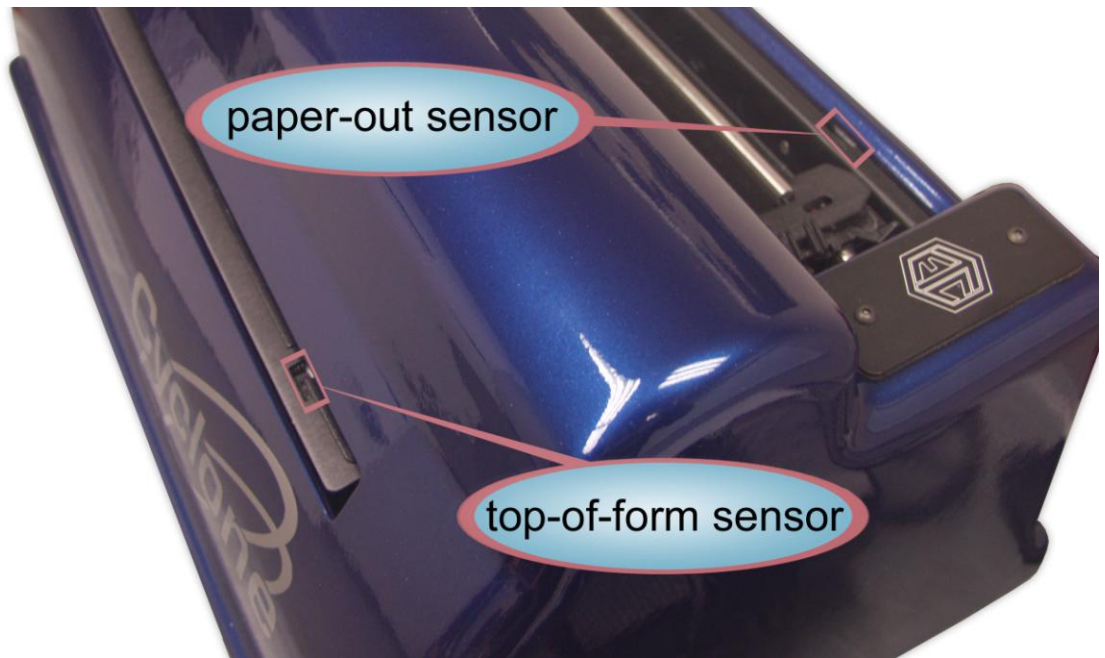

Figure 6
**IMPORTANT!** The paper-out sensor is located on the back top edge of the embosser behind the right tractor. See Figure 6. Always make sure the paper covers this sensor. If the paper does not cover this sensor then you may hear the paper out alert and the embosser will not function properly.
**IMPORTANT!** The embosser's top-of-form sensor *must* find the paper's edge to set top-of-form, which makes pages break in the right places. See Figure 6 for the location of the top-of-form sensor. When you reset top-of-form in the middle of a printing session, remove any finished pages before pressing the T-Button. Every time you install paper or press the F-Button, you must reset the top-of-form.